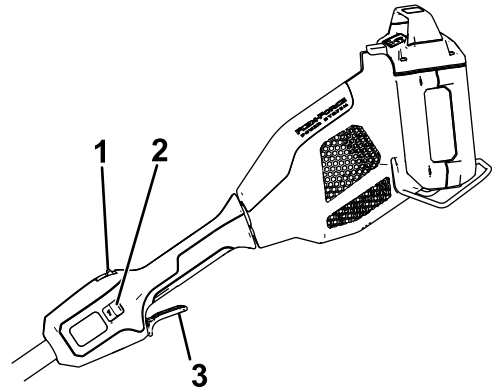

Figure 8
5. To start the attachment, press the lockout button, then squeeze the run trigger (Figure 8).
To shut off the hedge trimmer, release the run trigger (Figure 8). Allow at least 5 seconds for the cutting blade to stop moving.